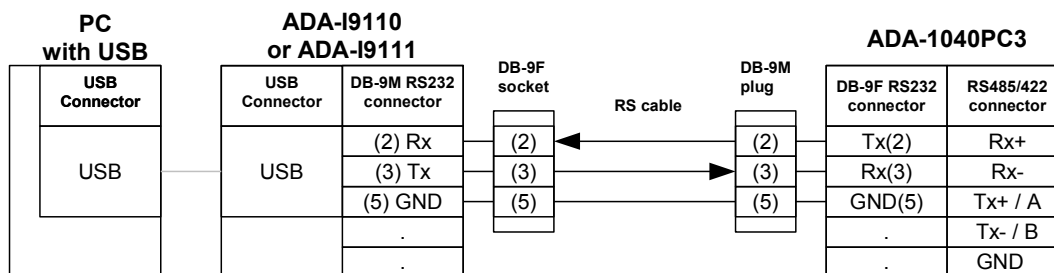

Fig. 5. ADA-1040PC3 connection to PC by the use of additional converter USB to RS232 (ADA-I9110 or ADA-I9111).
- USB computer port, should be used additional converter USB to RS232 (ADA-I9111 or ADA-I9110), which connect to RS232 port of ADA-1040PC3 as on diagram Fig.5.